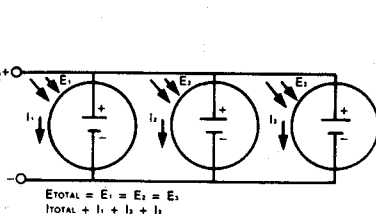

FIGURE 5
In order to transmit the electricity provided by sunlight activating the "N-P" junction of the solar cell, simply attach a conductor (copper wire) to each half of the cell. The resulting electrical current is determined by the square area of the cell being used at about one-half volt. To vary the amount of current or voltage produced, cells can be connected in series and/or parallel. Figure 5 illustrates that when multiple solar cells are connected in series the voltage (E) is increased, but the current (I) remains constant. Conversely, when multiple solar cells are connected in parallel the result is increased current without altering voltage output.